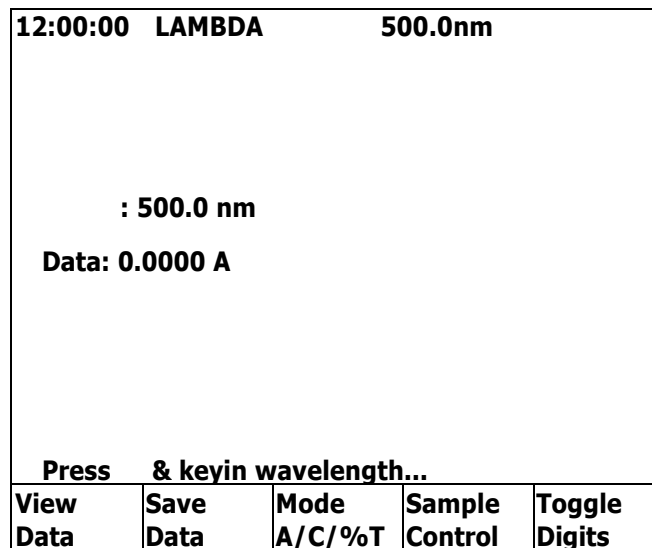

Figure 5.6 Five-digit reading
Step 4. When the reading is in ABS format, user may press F5 Toggle Digits to show five digits for more precise reading (Figure 5.6). This function can only work under the ABS format.